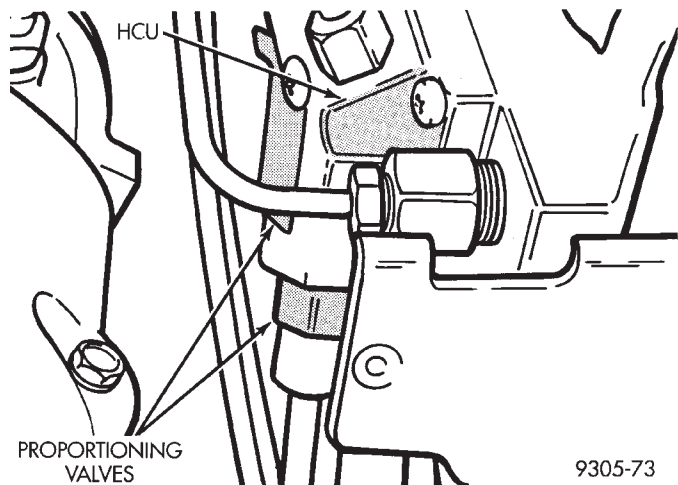

Fig. 5 Brake Tube Connections At Proportioning Valves
(6) Disconnect the 2 brake tubes from the proportioning valves (Fig. 5) located on the bottom of the (HCU).